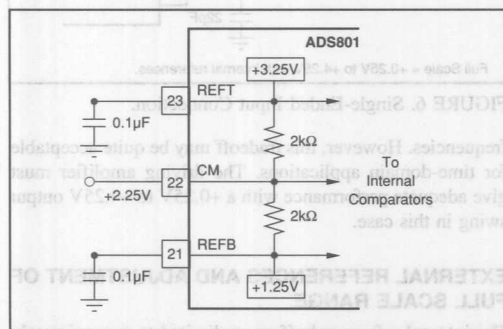

FIGURE 3. Internal Reference Structure.
The analog input of the ADS801 can be configured in various ways and driven with different circuits, depending on the nature of the signal and the level of performance desired. The ADS801 has an internal reference that sets the full scale input range of the A/D. The differential input range has each input centered around the common-mode of +2.25V, with each of the two inputs having a full scale range of +1.25V to +3.25V. Since each input is 2V peak-to-peak and 180° out of phase with the other, a 4V differential input signal to the quantizer results. As shown in Figure 3, the positive full scale reference (REFT) and the negative full scale (REFB) are brought out for external bypassing. In addition, the common-mode voltage (CM) may be used as a reference to provide the appropriate offset for the driving circuitry. However, care must be taken not to appreciably load this reference node. For more information regarding external references, single-ended input, and ADS801 drive circuits, refer to the applications section.